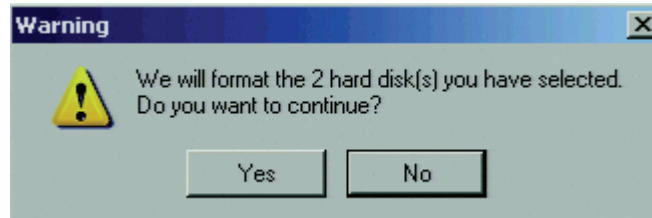

Figure 87. Format Warning Dialog Box
- c. Click "Begin allocation." The Warning dialog box appears (refer to Figure 87).